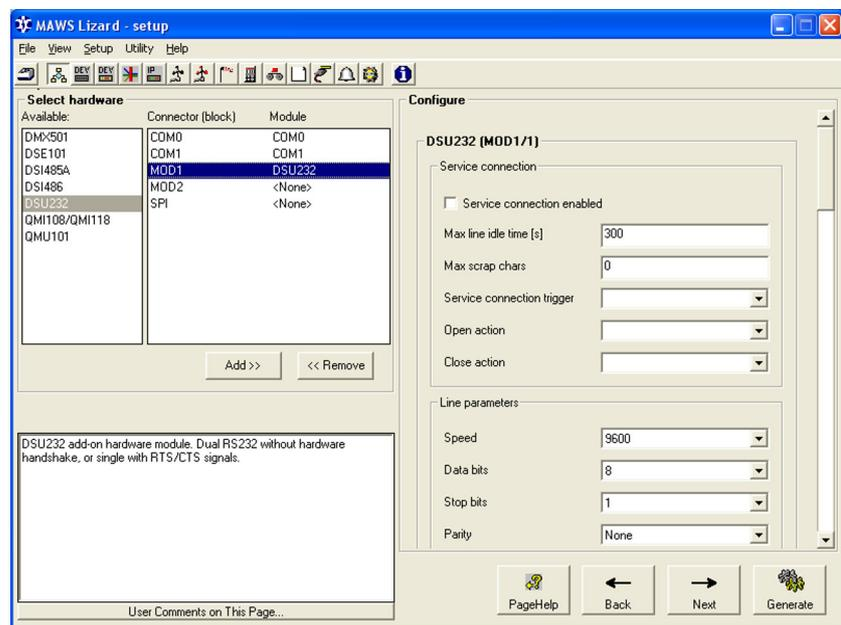

Figure 28 Optional Hardware View: Configuring DSU232 for Use with Ultrasonic Anemometer
1. Configure the ultrasonic anemometer hardware in the **Optional hardware** view; see Figure 28 on page 69.